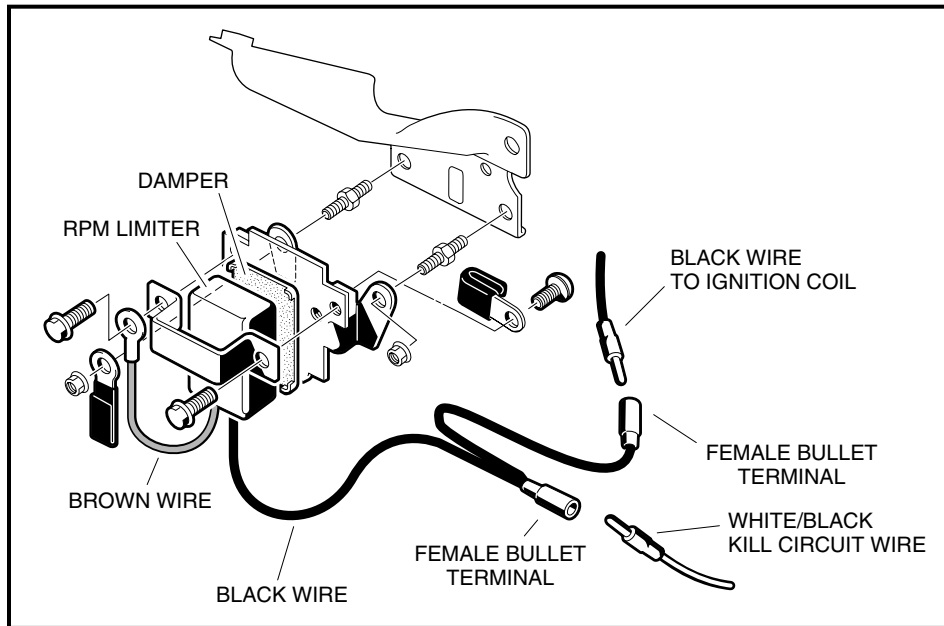

Figure 12-26 RPM Limiter Assembly
4. Disconnect the white/black wire from the black wire at the bullet connector located near the RPM limiter (**Figure 12-26, Page 12-27**).
6. Remove the flange head bolts from the RPM limiter band and remove the RPM limiter and damper (**Figure 12-26, Page 12-27**).
2. Place the RPM limiter with damper on the front of the RPM limiter mounting bracket (**Figure 12-26, Page 12-27**).